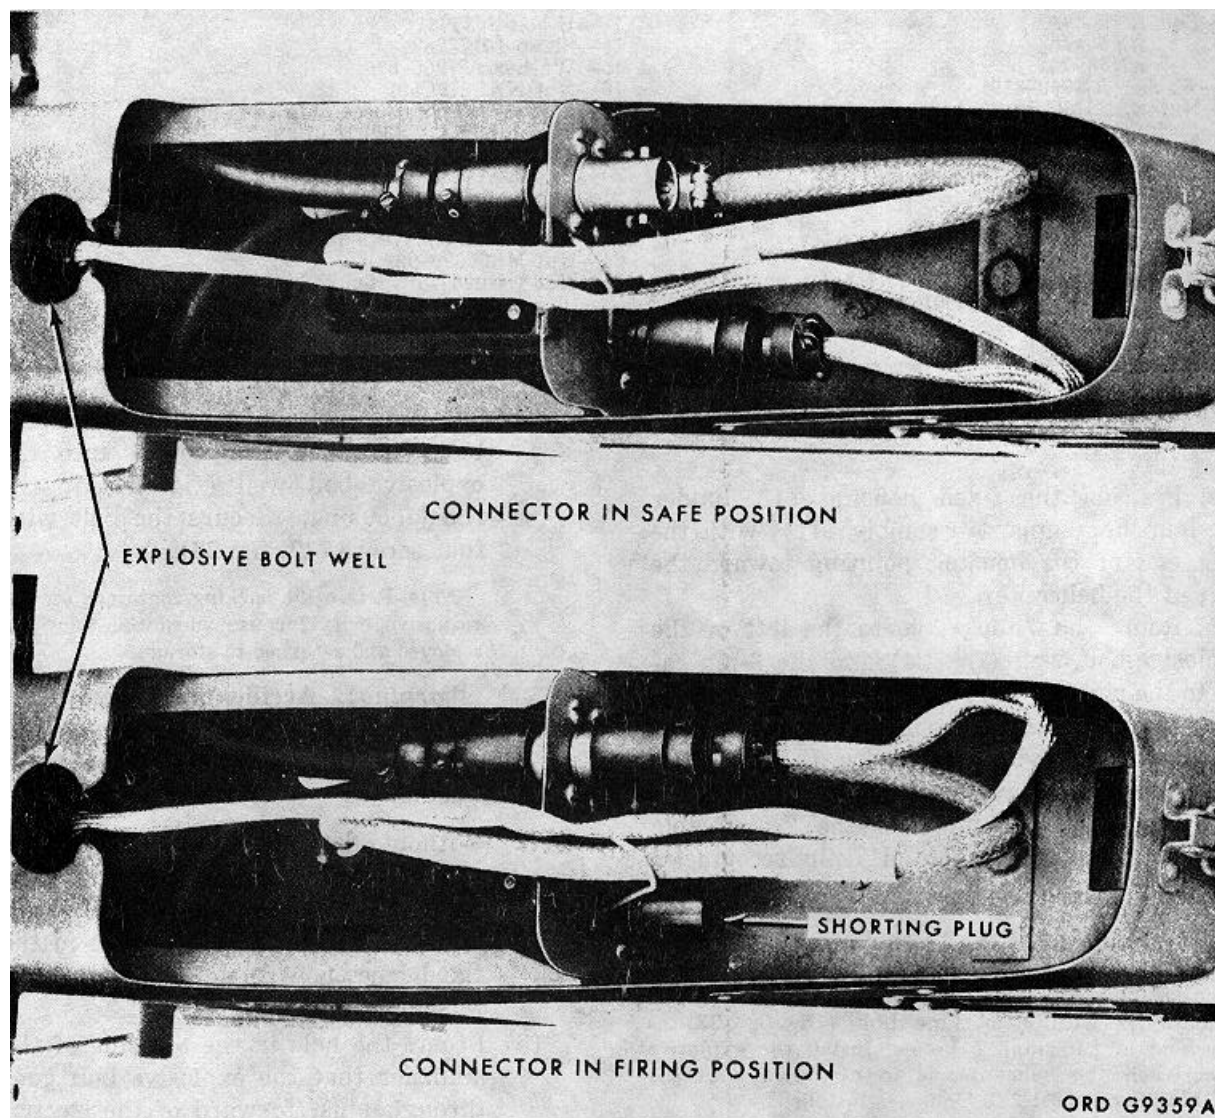

Figure 24. Explosive bolt cable connections.
a. Position the fixed housing (12) under the launcher support assembly (11), with the long end of the housing pointing toward the rear of the helicopter.
b. Route the 7-pin cable to the left of the explosive-bolt well (fig. 24) and the 3-pin cable to the right of the well.
c. Attach the fixed housing to the launcher support assembly, loosely, with U-bolts (13), strap (14), washers (15), and nuts (16).
23) and carefully insert the explosive bolt (threaded end down) into the explosive bolt well (fig. 24) in the fixed housing. Secure the bolt with four screws (17, fig. 23).
- (2) Without disconnecting the shorting plug from the explosive bolt cable, secure the shorting plug (fig. 24) into the SHORTING-PLUG hole in the fixed housing with four screws, lockwashers, and nuts.